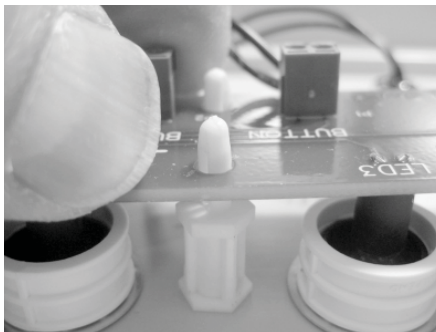

Figure 36 - Press the center of the Indicator Board partially down on its supports
- c. Move to the center of the board and repeat step Figure 36.